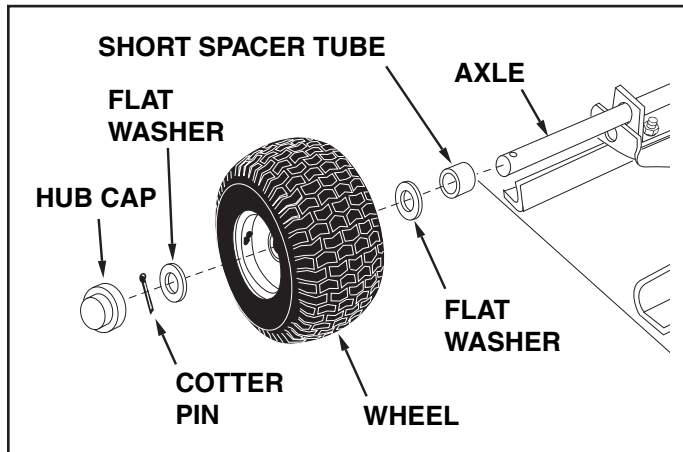

FIGURE 12
20. Assemble a short spacer tube, a 1" flat washer, a wheel (valve stem facing out), and another 1" flat washer onto the axle. Secure with a cotter pin, spreading the ends so that a hub cap can fit over the pin. Assemble the hub cap by pressing it onto the flat washer. Fill wheel hub with grease. Repeat on other end of axle. See figure 12.